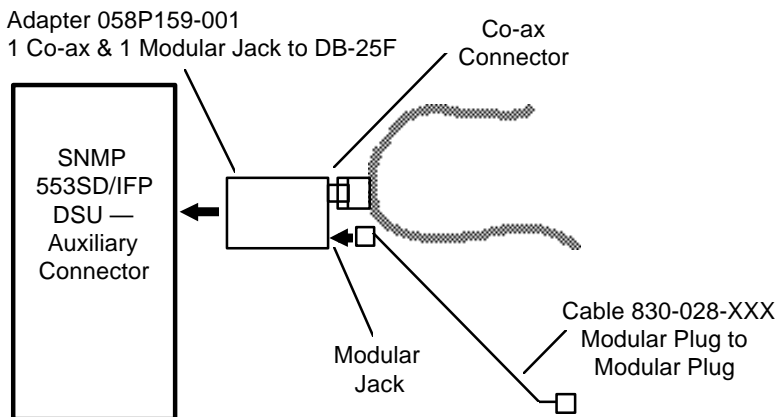

Figure 2-15 Cable and Adapter Connections for Management
* See Figures 2-15 and 2-16 for descriptions of adapters.
Figure 2-15 illustrates the adapter connections for the Management Channel Port. It also identifies cables and additional adapters required for some types of connection.